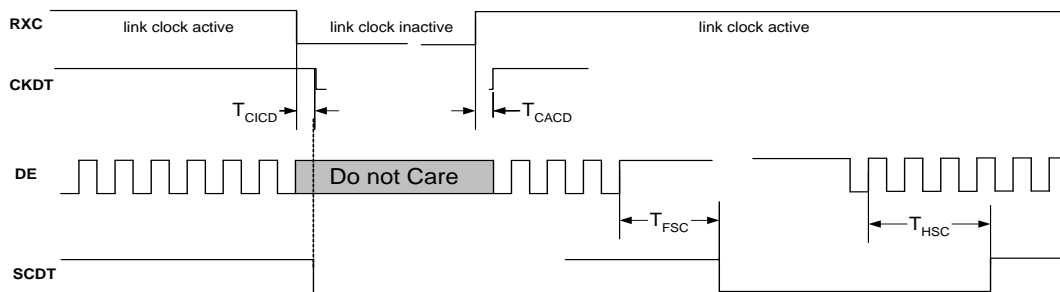

Figure 7. SCDT and CKDT Timing from DE or RXC Inactive/Active
1. The SCDT shown in Figure 7 is a register bit. SCDT remains HIGH if DE is stuck in LOW while RXC remains active, but SCDT changes to LOW if DE is stuck HIGH while RXC remains active.
2. The CKDT shown in Figure 7 is a register bit. CKDT changes to LOW whenever RXC stops, and changes to HIGH when RXC starts. SCDT changes to LOW when CKDT changes to LOW.